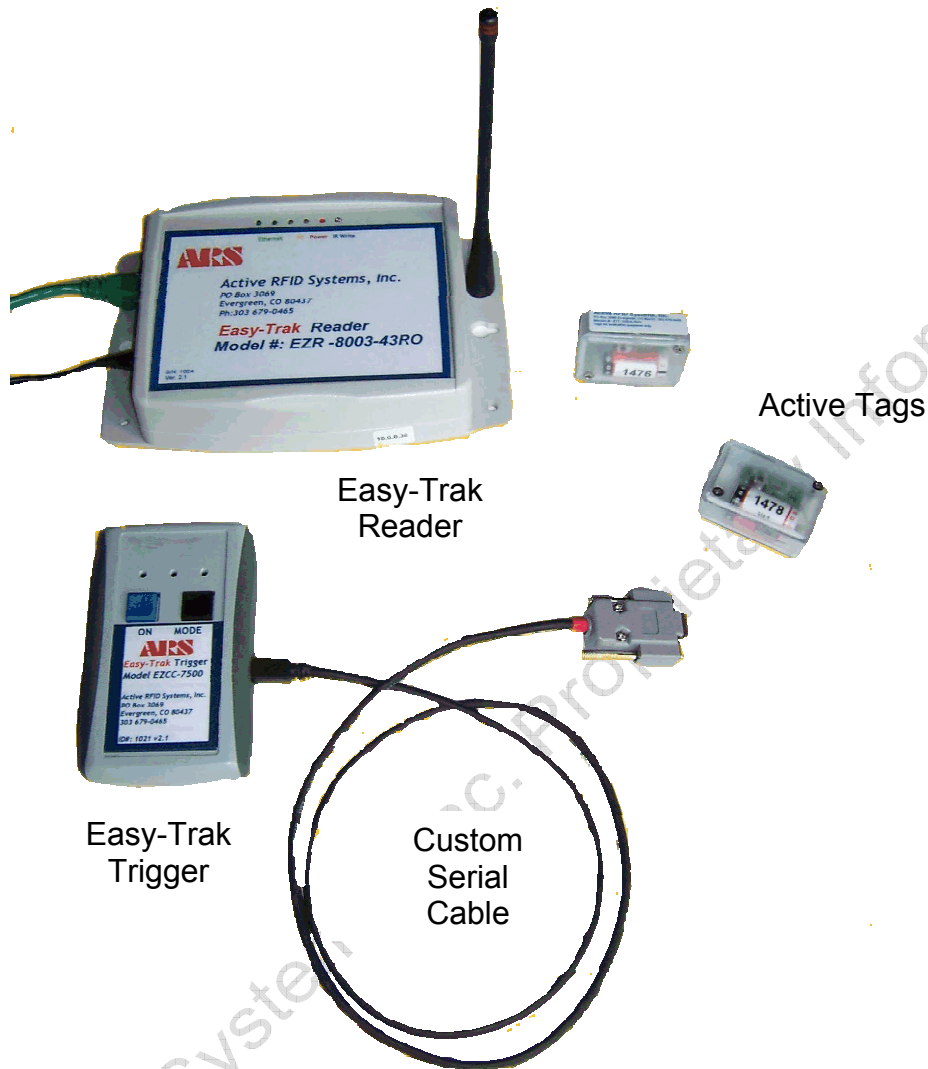

Figure 1 - Evaluation Kit Components
1. If the supplied **Antenna is not attached** to the **Easy-Trak** Reader, **gently screw the right angle connector into the Reader and then screw the antenna onto the connector. Orient the antenna so it is 'vertical'**, e.g. perpendicular to the Reader if the Reader is sitting on a table. See Figure 1.